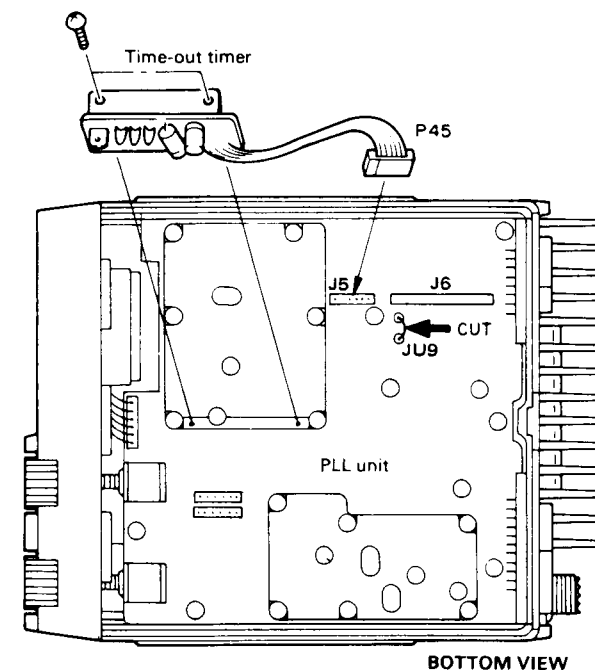

Fig. 3-8
10. Installing time-out timer KTT-1 (Fig. 3-8)